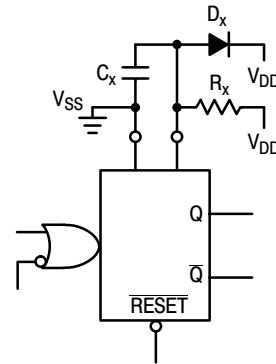

Figure 11. Use of a Diode to Limit Power Down Current Surge
7. If $C_X > 15 \text{ µF}$, use discharge protection diode per Fig. 11.
When a more rapid decrease of V_{DD} to zero volts occurs, the MC14538B can sustain damage. To avoid this possibility use an external clamping diode, D_X , connected as shown in Fig. 11.